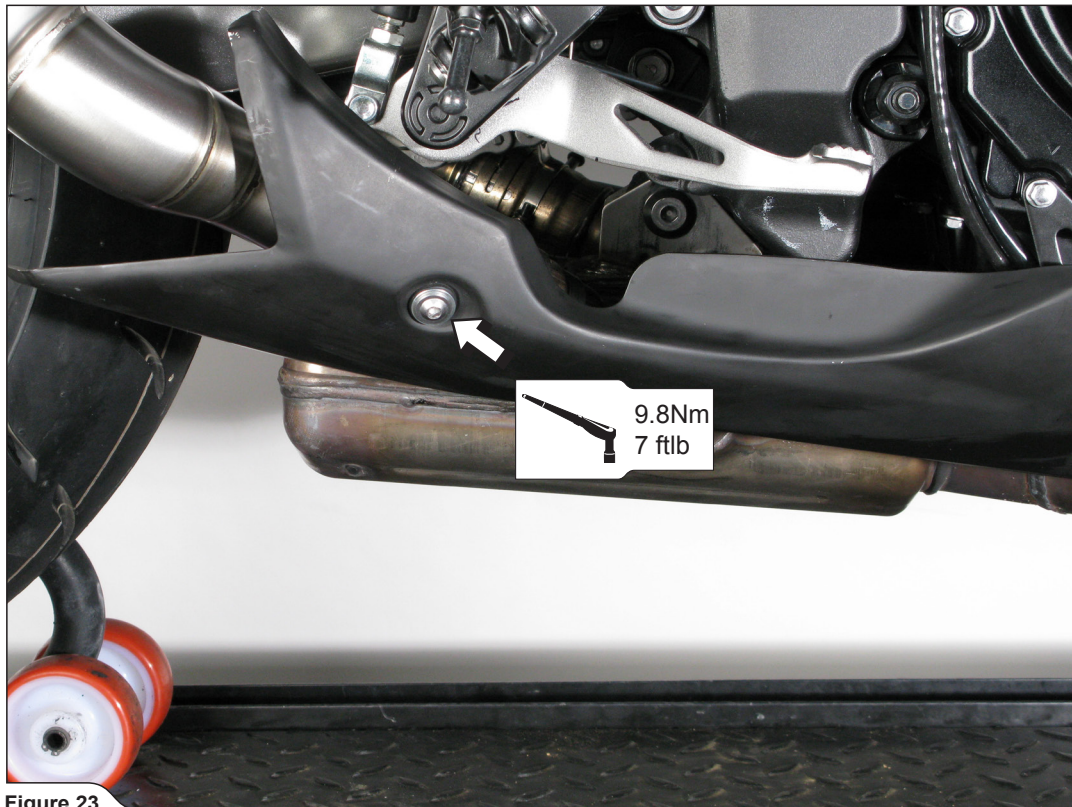

Figure 23
7. Install the stock heatshield back on the right side of the motorcycle, using stock bolt and washer (**Figure 23**).